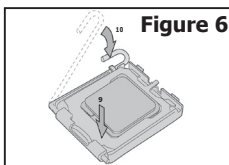

Figure 6
6. Pressing down on the load plate (Figure 6, 9) close and engage the socket lever (Figure 6, 10).